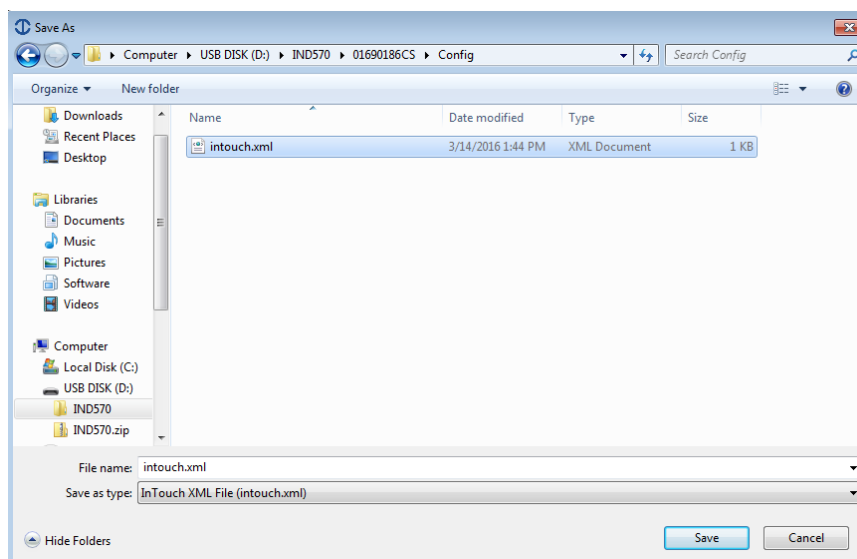

Figure 5-52: Saving the InTouch File
2. It is not possible to enter a file name here. Instead, press the browse button (...) to open the save window similar to the one shown in Figure 5-52. Navigate to the appropriate file location on the USB drive